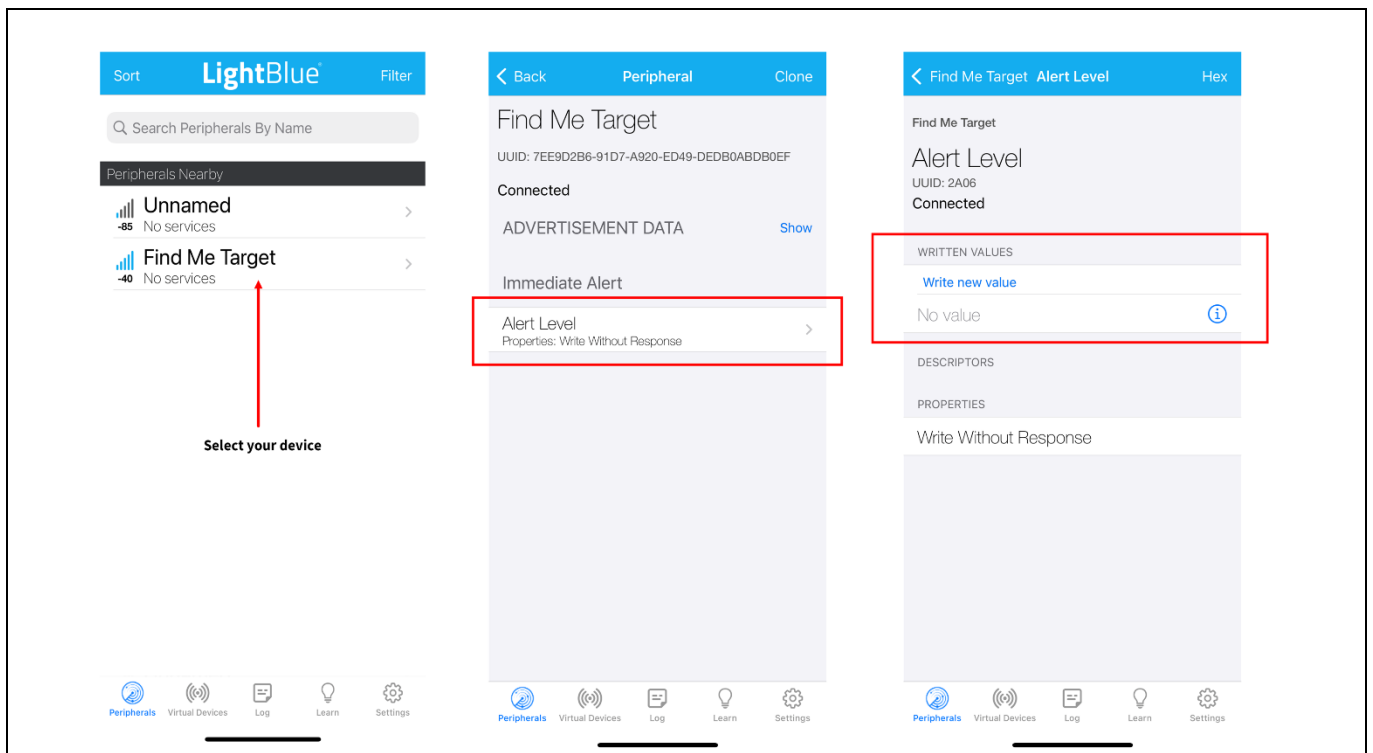
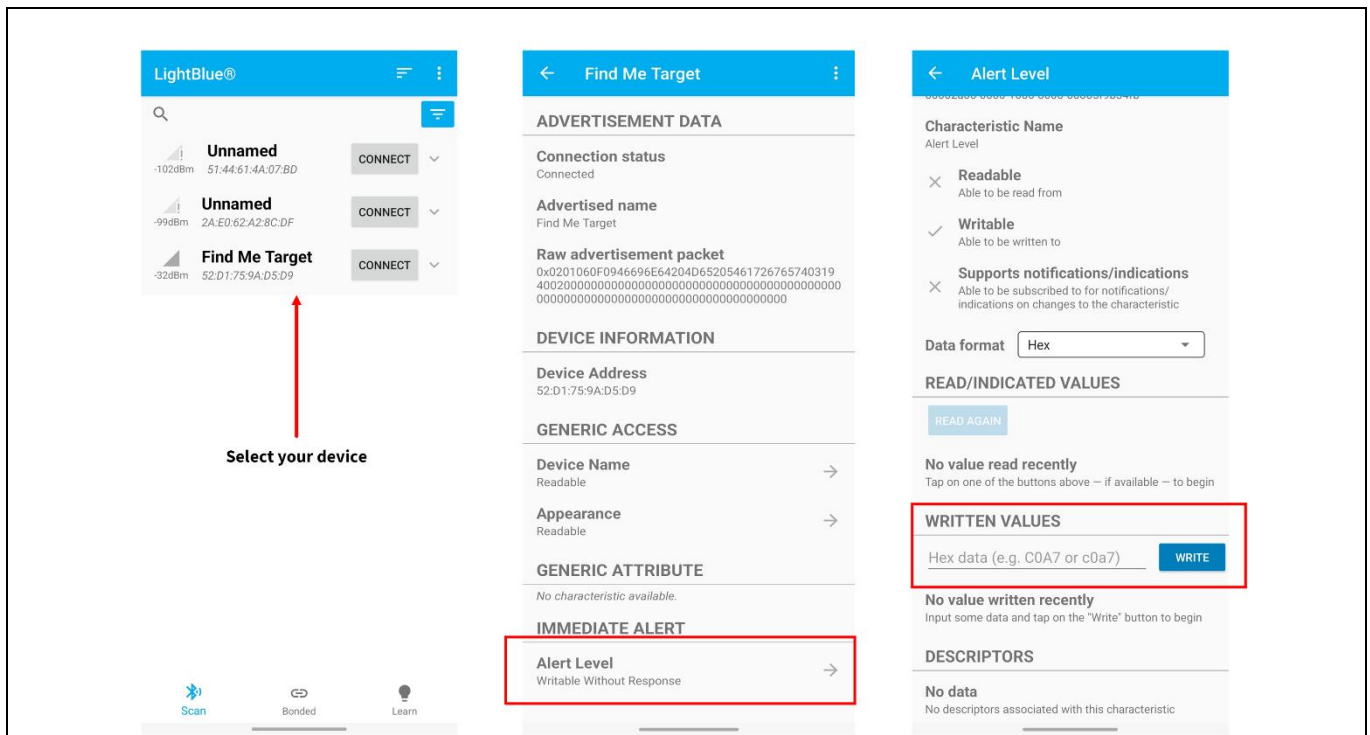

Figure 34 Testing with the LightBlue app on iOS
Figure 35 Testing with the LightBlue app on Android
5. To test using the LightBlue mobile app, follow these steps (see equivalent LightBlue app screenshots in Figure 34 for iOS and Figure 35 for Android).